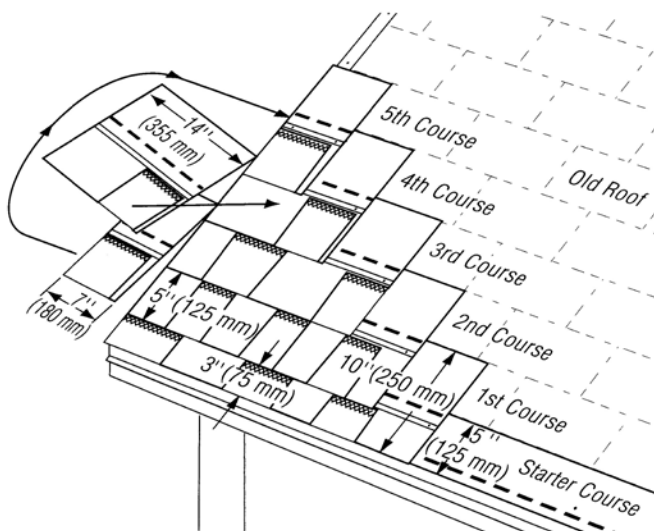

Figure 15-13: Five-Course Diagonal, Nested.
2. Cut 7" off the length of the first strip, apply the 29" remaining piece over the old first course at the lower left corner, overhanging the rakes and eaves ½" if drip edge is used, or ¾" if no drip edge is used (Figure 15-13).
3. Continue with full-length starter shingles along the eaves (Figure 15-13).
1. The first-course shingles are made of full Landmark shingles with 2" cut off the bottom of the tabs (Figure 15-13).
1. Cut 7" off the left end of the first shingle and save this piece for later use. Apply the 29" long piece over and above the first-course shingle. For this and all succeeding courses, align the top edge of the shingle to be applied with the bottom edge of old shingles in the next course. Exposure of first course only is reduced to 3" (Figure 15-13).
2. Fill-in courses across the roof in a stepped diagonal fashion using full shingles (Figure 15-13). Do **not** run courses straight across.